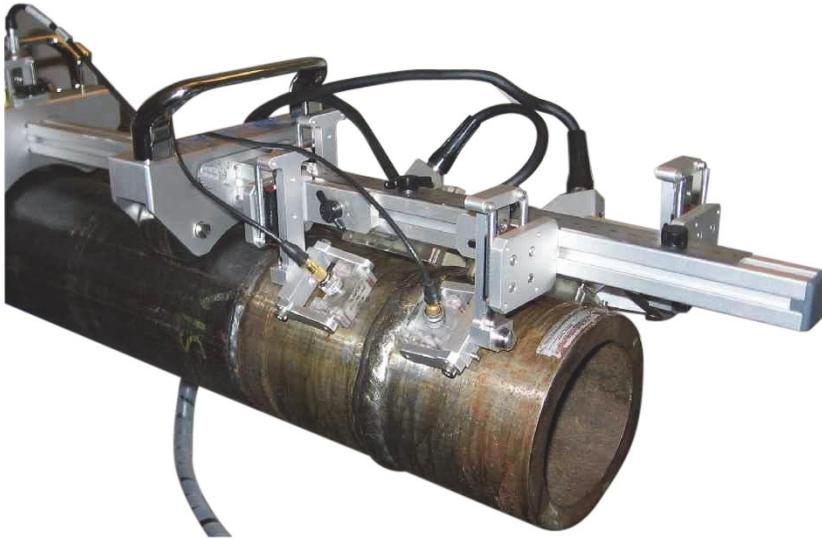

Figure 2-6 Scanner with frame extended beyond wheel limits
- Attach the remaining scanner components in the desired configuration. An example inspection setup with the frame extended beyond the wheel limits is shown in Figure 2-6 on page 23.